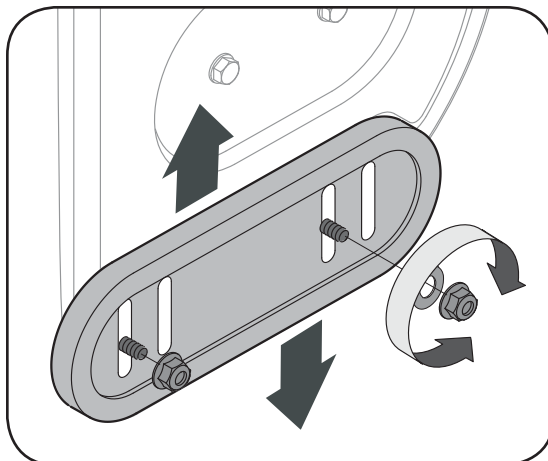

Figure 5-3
1. Adjust skid shoes by loosening the lock nuts and carriage bolts and moving skid shoes to desired position. See Figure 5-3.